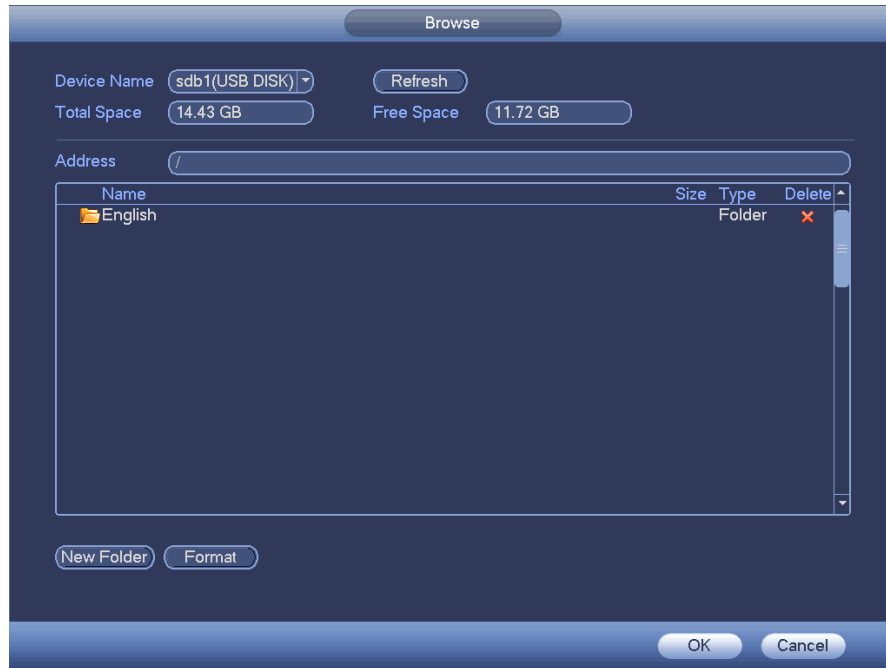

Figure 4-31
Step 7 Click Finish button, system pops up a dialogue box. Click the OK button, the startup wizard is complete. See Figure 4-31.